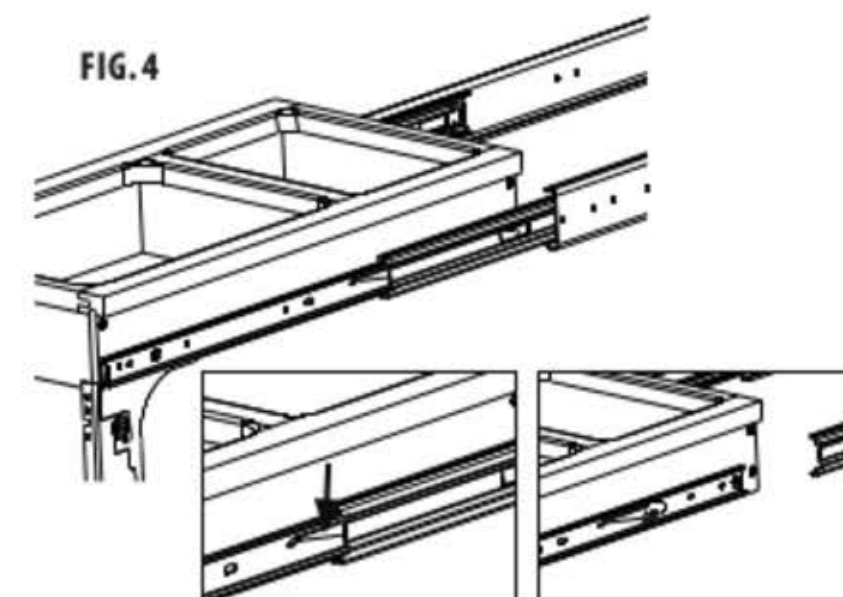

FIG. 4
5. Disengage slides from wood frame by extending slides, pressing the release levers and pulling away from the wood frame (see fig. 4).